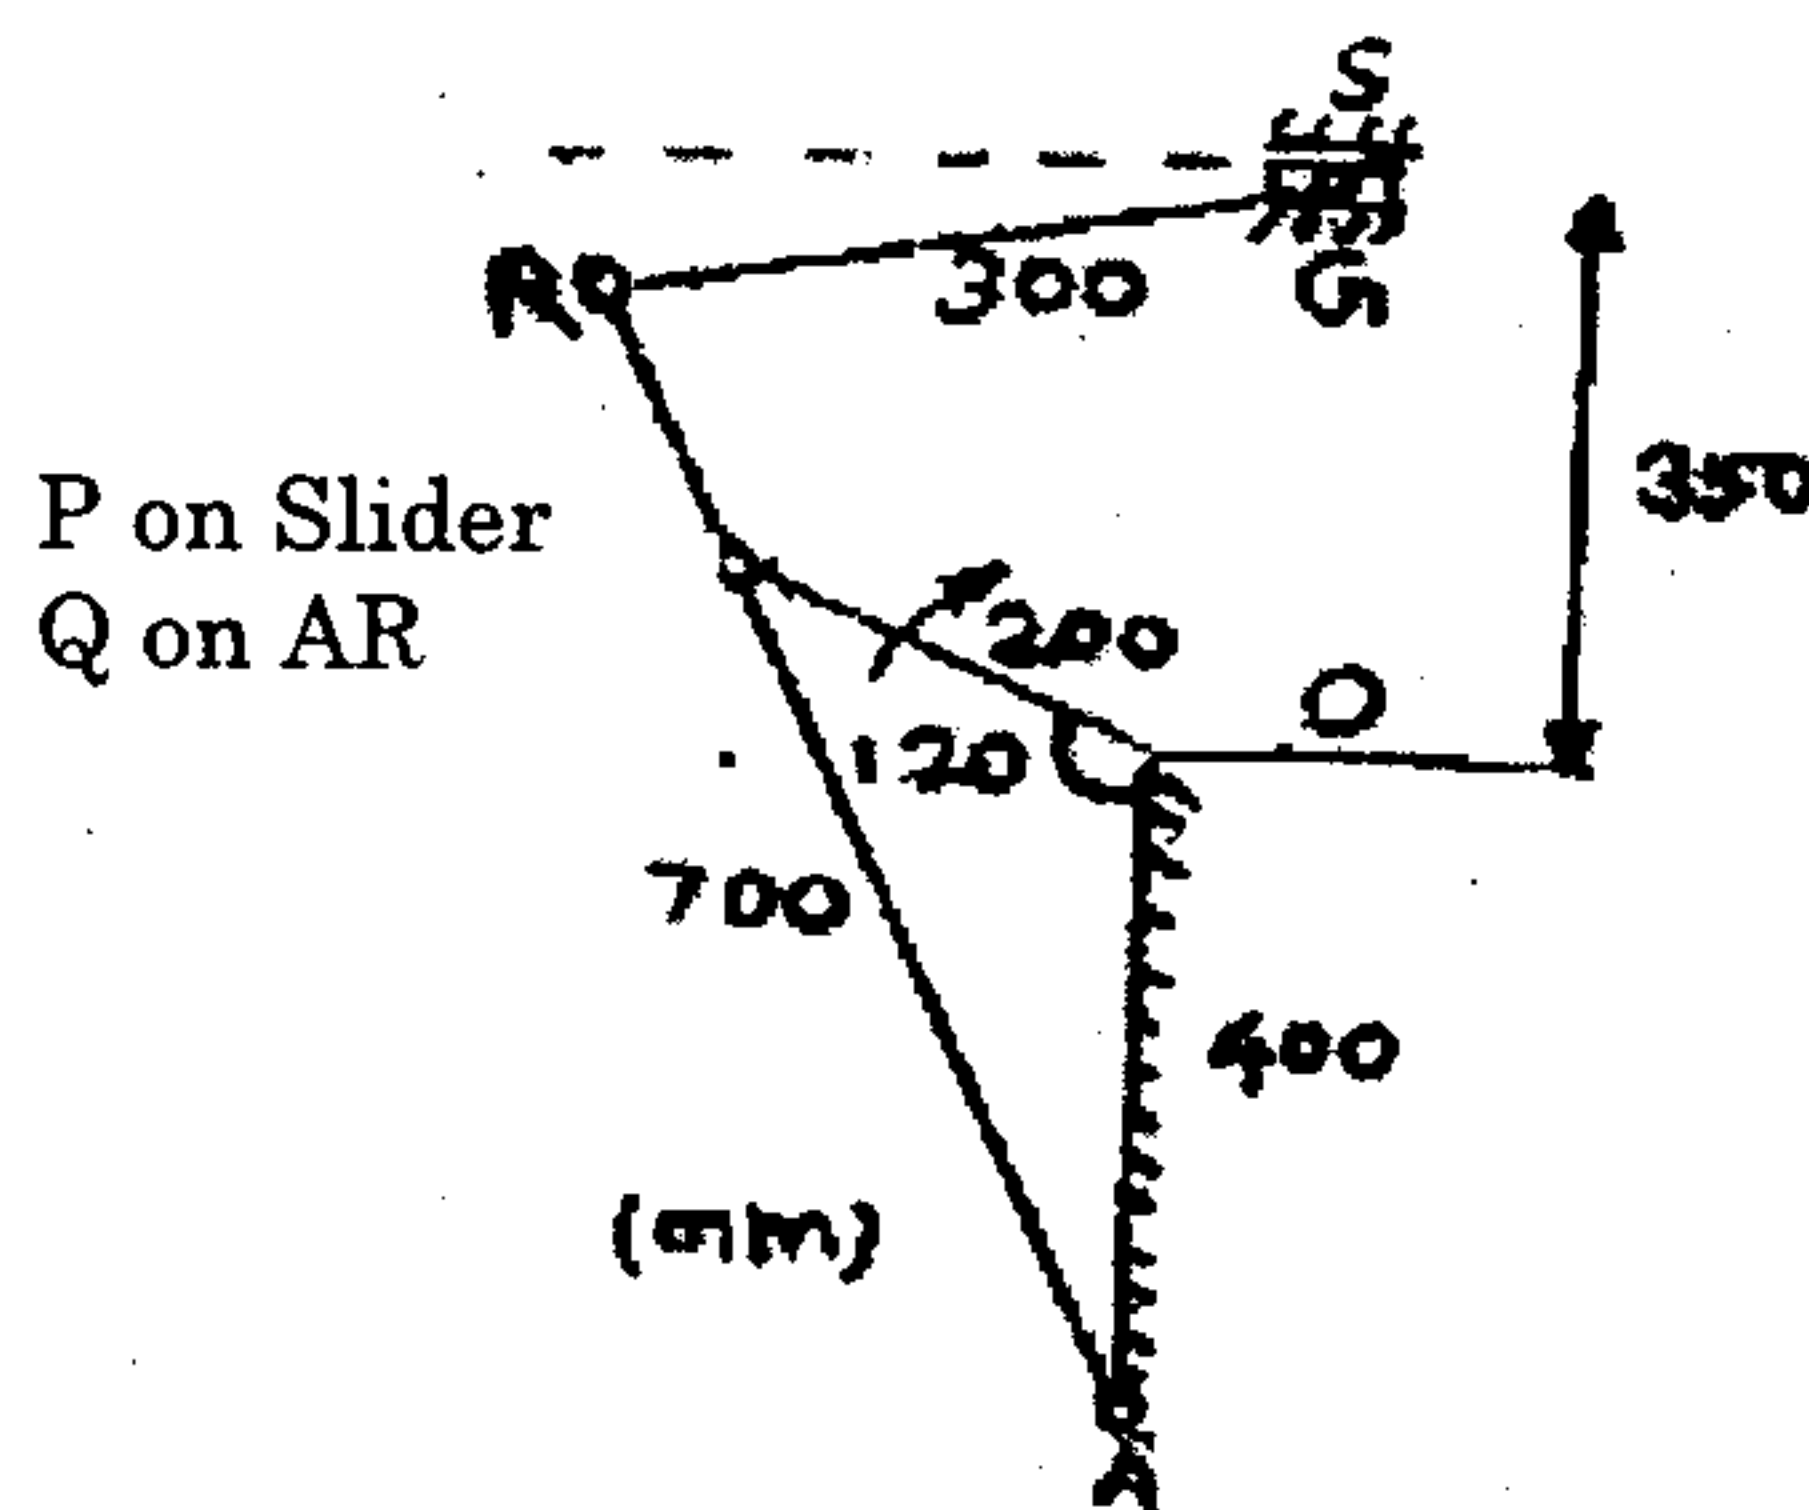

Fig. 12 (a)
- (b) A Hooke's joint connects two shafts whose axes intersect at  $18^\circ$ . The driving shaft rotates at a uniform speed of 210 rpm. The driven shaft with attached masses has a mass of 60 kg and the radius of gyration of 120 mm. Determine the torque required at the driving shaft if a steady torque of 180 Nm resists rotation of the driven shaft and the angle of rotation is  $45^\circ$  and angle between the shafts at which the total fluctuation of speed of the driven shaft is limited to 18 rpm. (16)
12. (a) Fig.12 (a) shows the link mechanism of a quick-return mechanism of the slotted lever type, the various dimensions of which are  $OA = 400$  mm,  $AR = 700$  mm,  $RS = 300$  mm. For the configuration shown, determine the acceleration of the cutting tool at S and the angular acceleration of the link RS. The crank OP rotates at 210 rpm. (16)